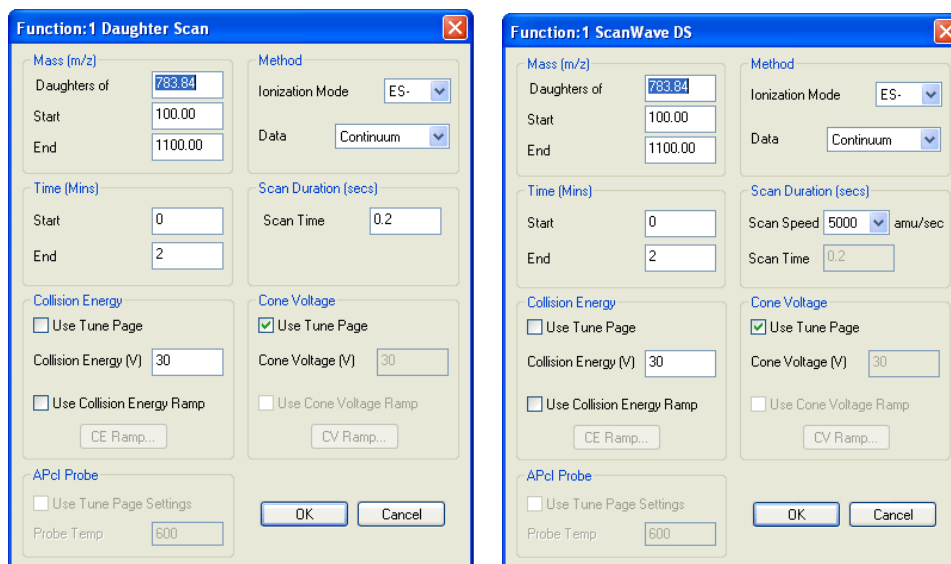

Figure 47 - Daughter scan (left) and ScanWave DS (right) parameters
5. Create two experimental methods, one with a single daughter scan and the other with a single ScanWave DS using the parameters shown in Figure 47.